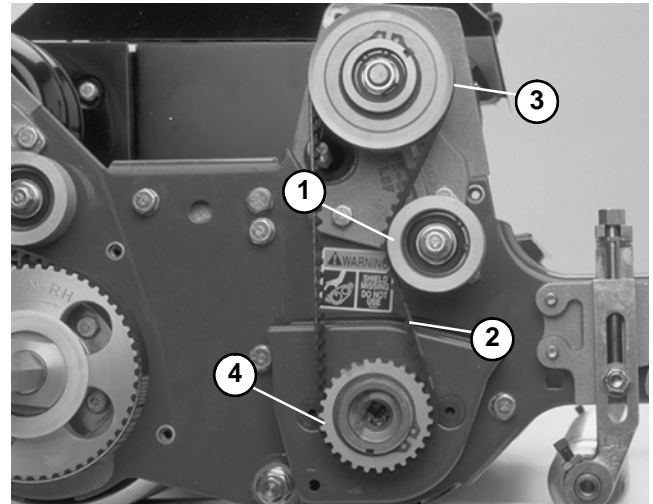

Figure 12
5. Pivot idler pulley counterclockwise away from the reel drive belt to loosen belt tension. Remove reel drive belt from the clutch pulley and drive pulley (Fig. 12).
2. Place a new reel drive belt onto the clutch pulley and drive pulley (Fig. 12).